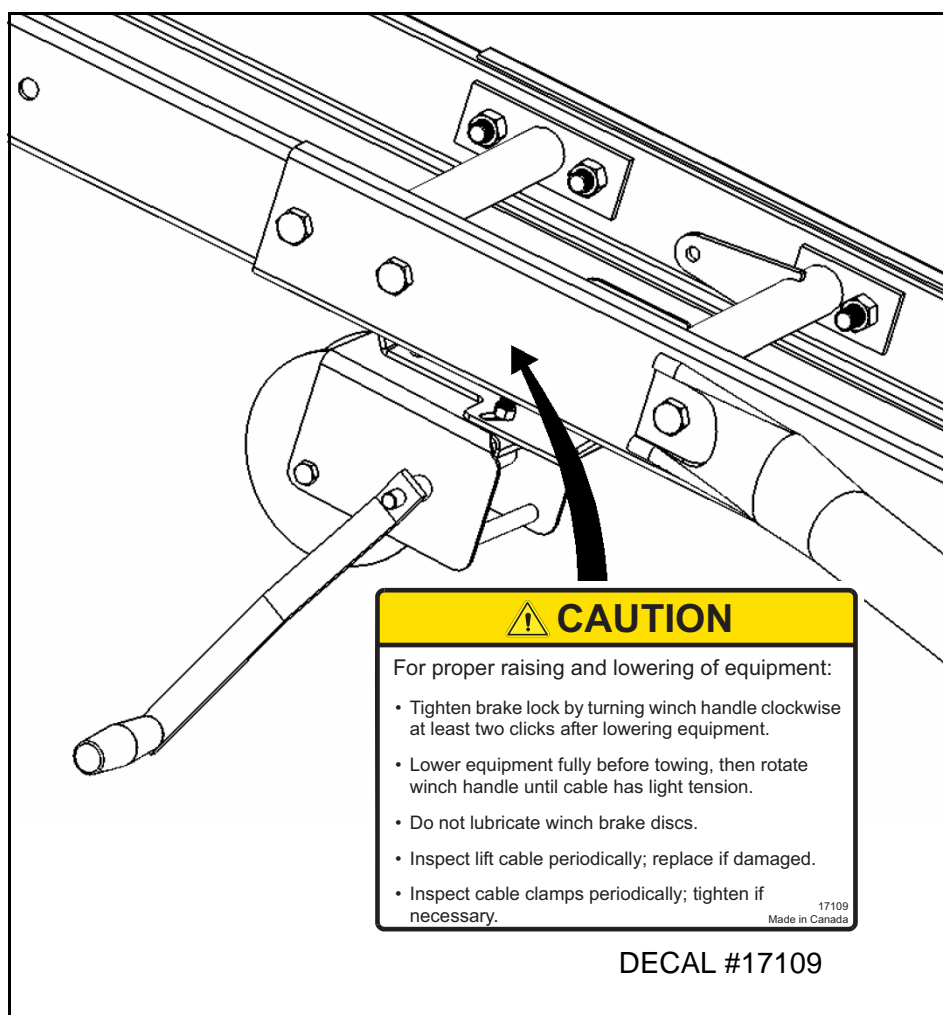

Figure 3.21
5. Attach winch decal (#17109) provided on auger frame in a visible location close to winch (Figure 3.21).